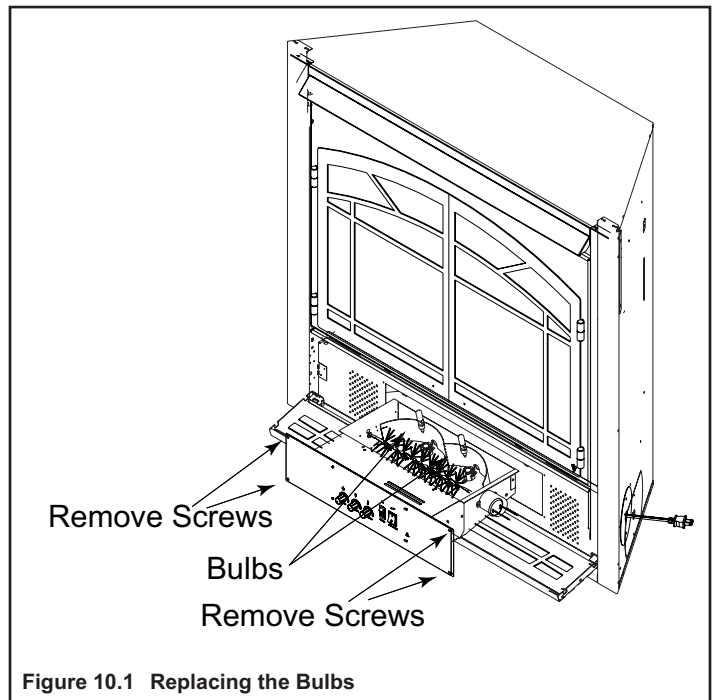

Figure 10.1 Replacing the Bulbs
- Remove the four outer screws. See Figure 10.1.